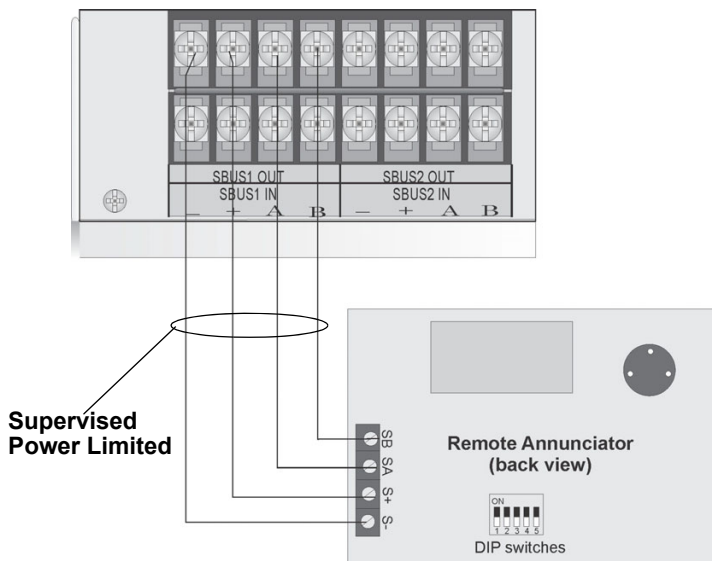

Figure 4.23 Model RA-1000 Connection to the Panel
Connect the RA-1000 to the panel as shown in Figure 4.23.
3. Wire the Annunciator board to the main control panel. See Figure 4.23.